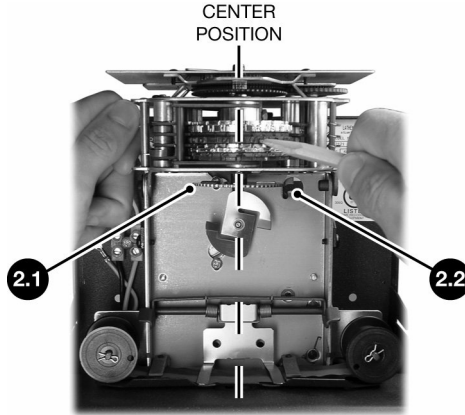

Figure 2
1. Locate the Center Line where all the wheels line up as shown in **Figure 2**.
2. Rotate the wheels using a pointed object. Rotate each wheel until the correct date and time are aligned at the Center Position, as shown in **Figure 2**. *Hint: Start at the top wheel and work down when setting.*
6. Rotate the **Main Setting Wheel - Figure 2, 2.1** to advance both the Clock Face and Print Wheels together. Rotate until you pass the actual time by one minute (each “click” indicates one minute.)
7. Hold the corner of the Clock Face and release the **Release Latch - Figure 2, 2.2** by pushing it to the left. Slowly let the Type Section down and press it firmly into the Type Section Headlock.